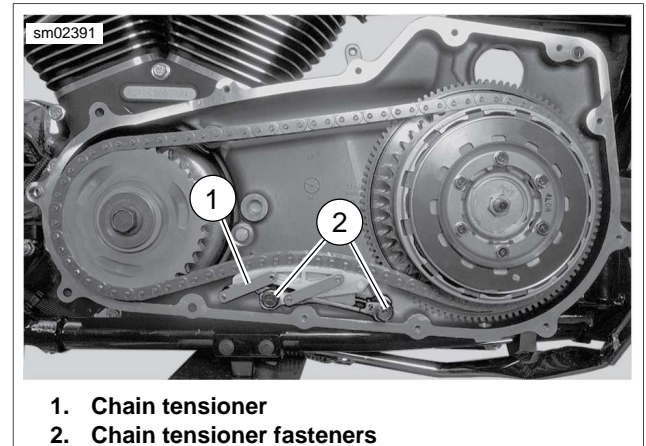

Figure 6-4. Chain Tensioner
2. See Figure 6-4. Remove chain tensioner fasteners (2) then remove chain tensioner (1).